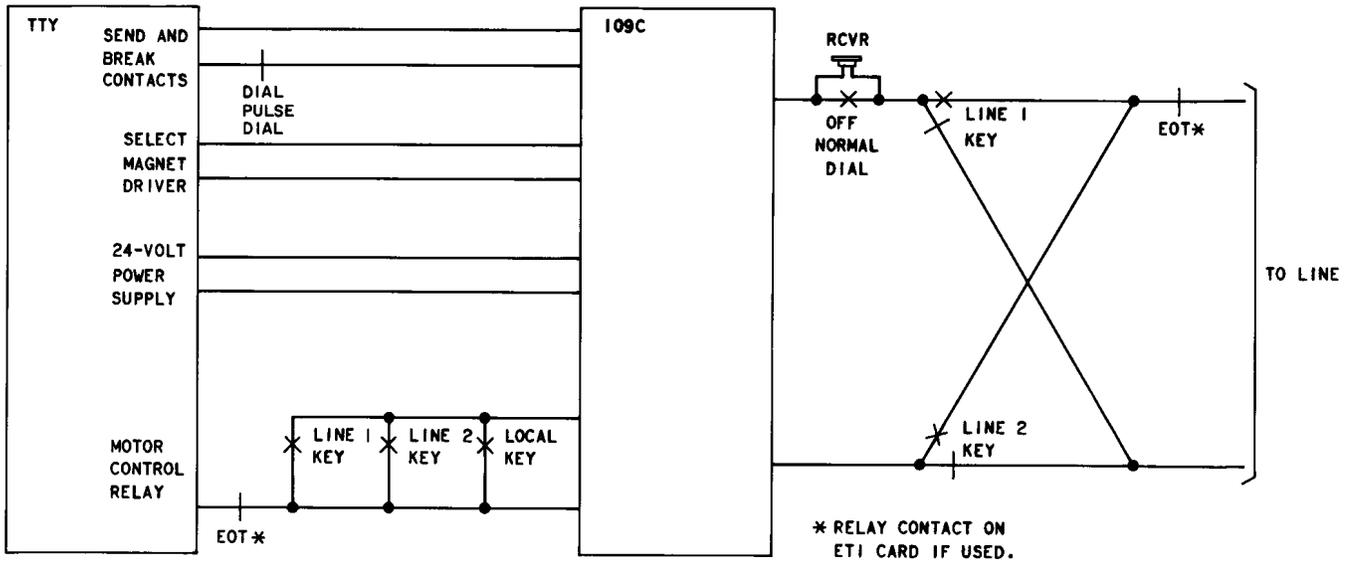
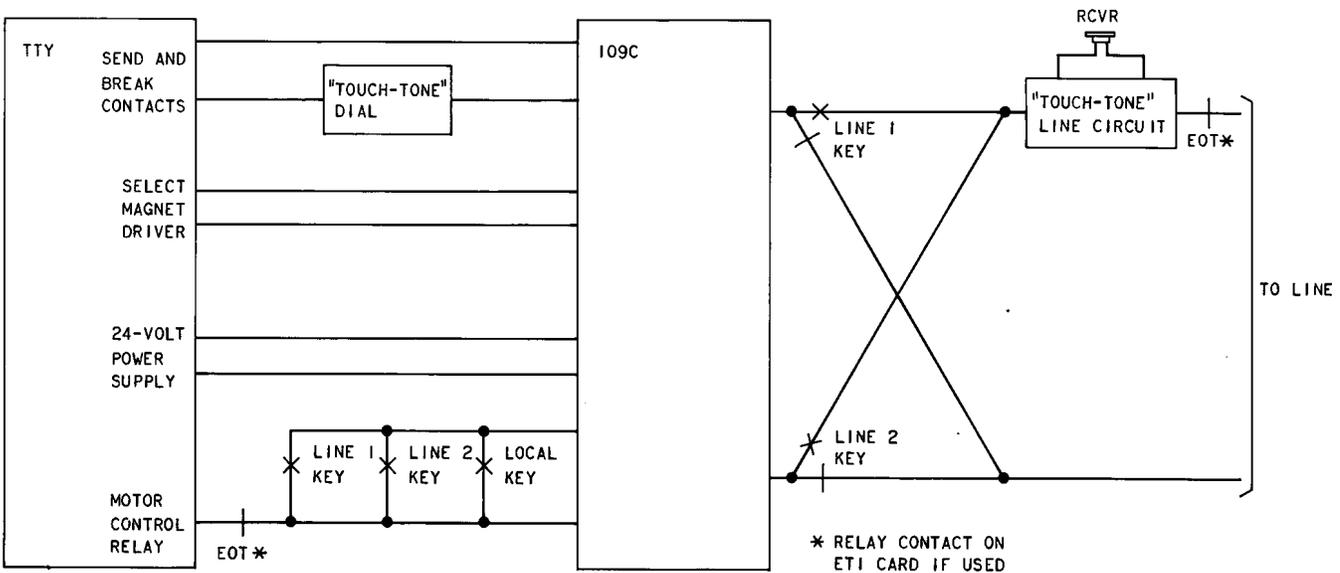

Fig. 10—Data Set 109C-L1/2/3 Dual Access, Data Line Concentrator System Major Switching Functions
Fig. 11—Data Set 109C-L1/2/4 Dual Access, Data Line Concentrator System Major Switching Functions
4.08 LINE 2: LINE 2 on stations using Data Set 109C-L1/3 or 109C-L1/4 is associated with the DATA-PHONE interconnection arrangement (DDD). The dial and listen-only handset (receiver) are arranged as shown in Fig. 10 and Fig. 11. Key functions are given in Table D.